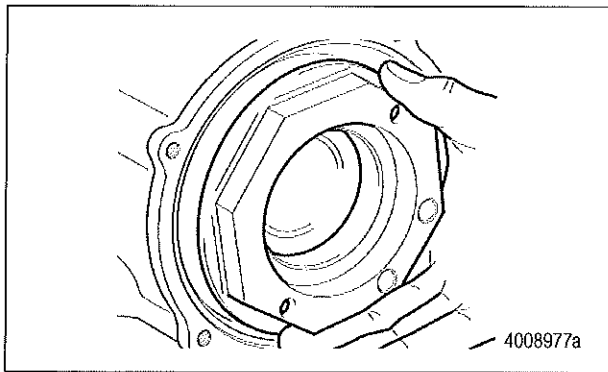

Figure 23
- B. Install the hub retaining nut and tighten until the nut is fully engaged on the spindle thread. Figure 23.